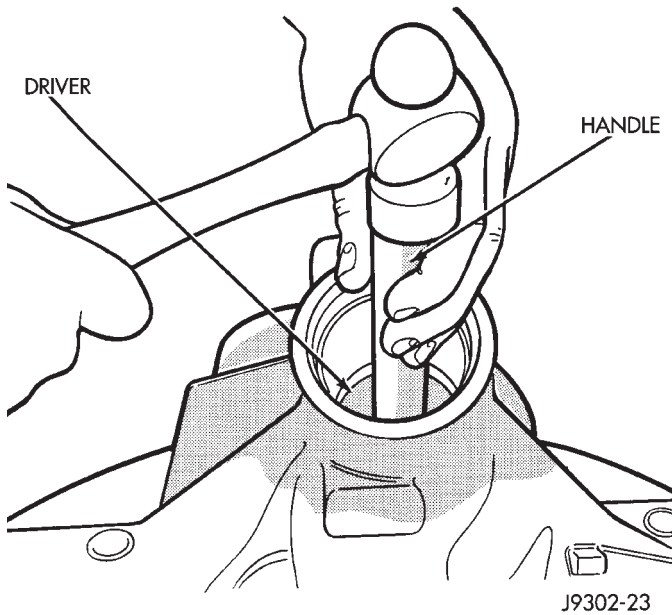

Fig. 49 Rear Bearing Cup Removal
(10) Remove the rear bearing cup from housing (Fig. 49). Use Remover D-149 and Handle C-4171.